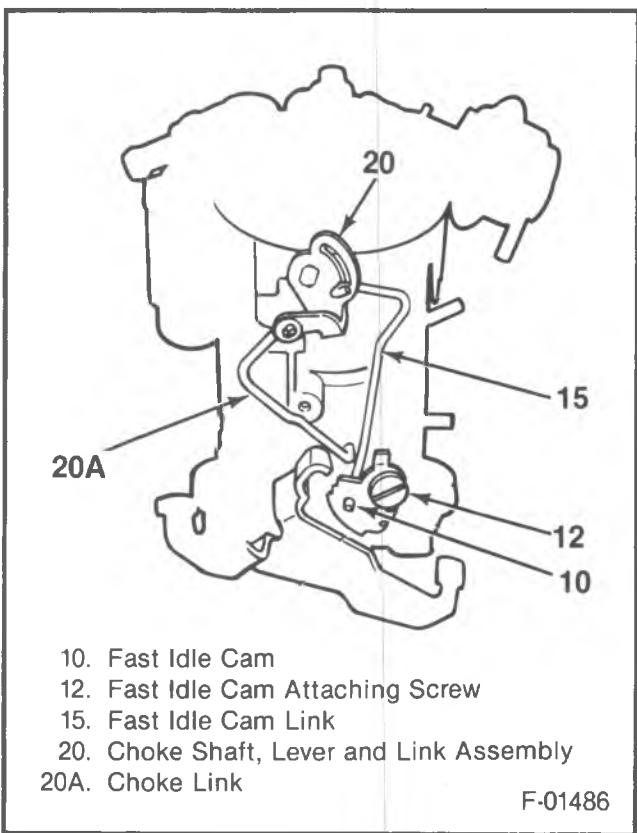

Figure 13- Fast Idle Cam and Cam Link
- Remove or Disconnect (Figure 13)
- Fast idle cam attaching screw (12), cam (10) and cam link (15).
- Disconnect fast idle cam link from choke shaft lever (20)